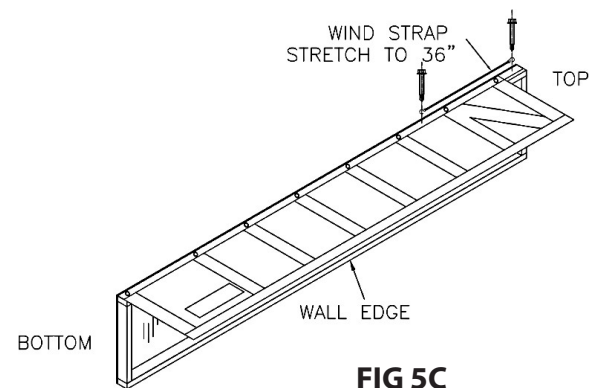

FIG 5C
- a. Place Wind Strap "S" hook at hole at top of Vertical Frame (Figure 5c).